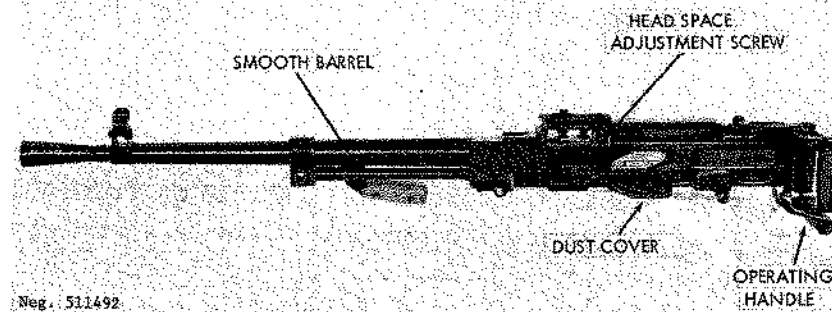
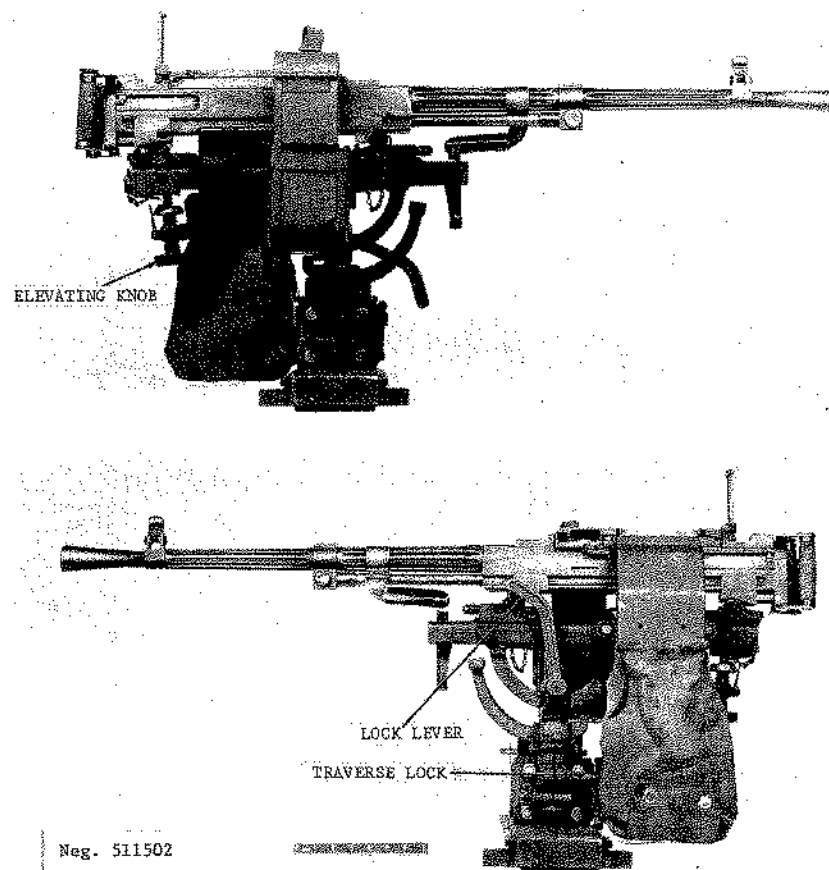
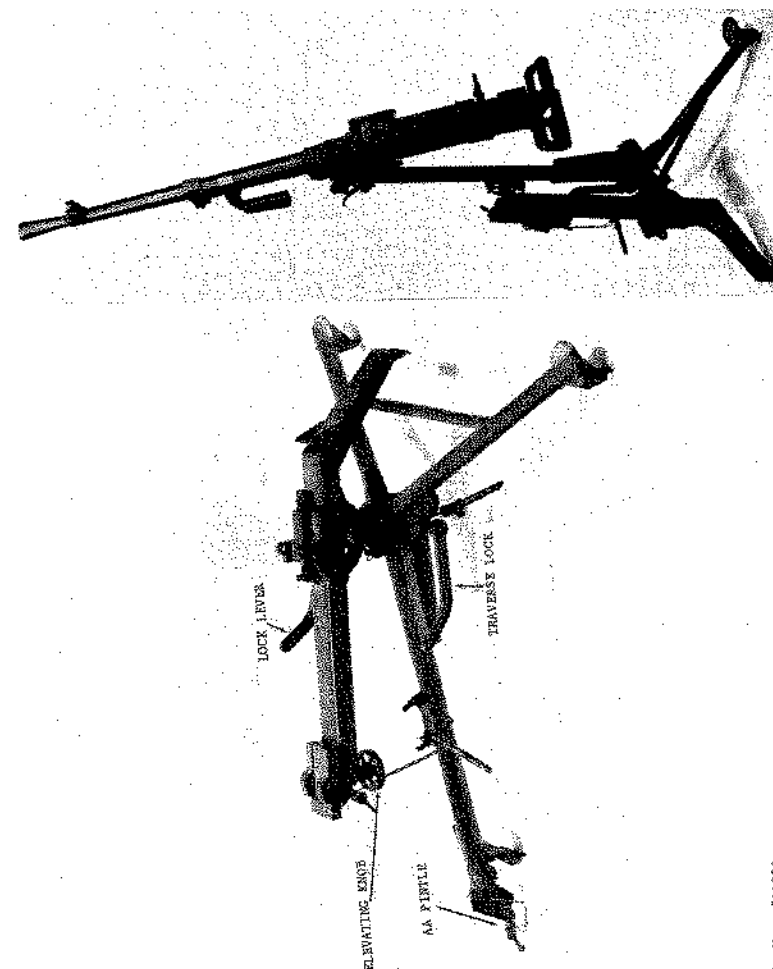

Figure 193. SG-43M heavy machinegun.
Figure 203. Early SGM on vehicular mount.
Figure 204. PRC Type 70 tripod.
SG-43M: The SG-43 with SGMB type barrel lock and dust covers (fig 193).
a. There are a number of mounts available for the Goryunov machineguns. These include the wheeled Model 1943 (fig 193) and Degtyarev (fig 195) mounts, the Sidorenko-Malinovski tripod mount (fig 202), various vehicular mounts (fig 203), and the PRC Type 70 (fig 204) dual purpose tripod. There are two methods of joining the guns to the mounts. The SG-43, SG-43M, early SGM, and SGMT and PRC Type 53 guns use traverse pins; late SGM, the SGMB and PRC Type 57 models use spring-loaded clamps to hold the gun to the mount.
d. The ground mounts are readily converted to antiaircraft use by dismounting the gun, upending the mount (figs 204, 205, and 206) and installing the gun (by its front mount only) on the
antiaircraft pintle. The SG-43 shield is used to brace the mount for AA firing. On the SGM Degtyarev, M-S and PRC Type 70 mount, press the AA spade locks and swing the AA spade into position prior to upending. Pull the AA pintle outward and swing it into position (fig 204).
e. In order to obtain the best accuracy, the spades (figs 204 and 205) should be either embedded in the ground or braced.